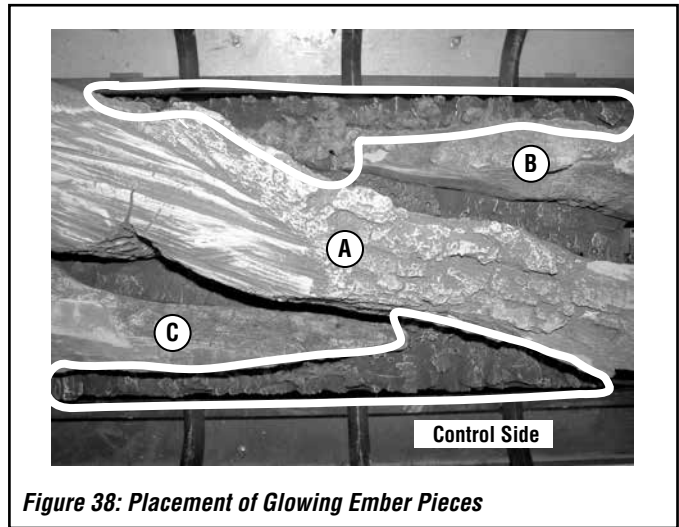

Figure 38: Placement of Glowing Ember Pieces
- b) Distribute the dime-sized pieces over the surface of the burner, in the areas shown in **Figures 38 and 39**.